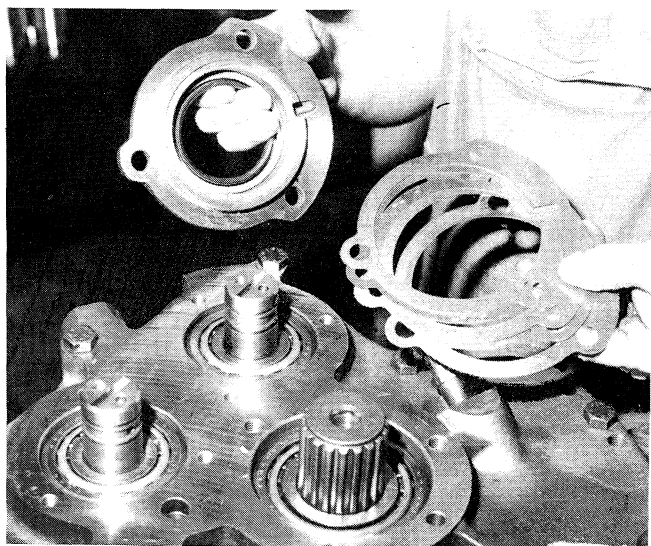

Figure 6-7. Output Bearing Retainer and Shims removed.
15. Remove the three hex-head capscrews (Figure 12-2, 23) that secure the bearing retainer (22) to the rear cover. Remove the bearing retainer and the bearing retainer shims (21) from the rear cover. See Figure 6-7. Remove the bearing retainer oil seal (Figure 12-2, 24) from the bearing retainer. Discard the oil seal.